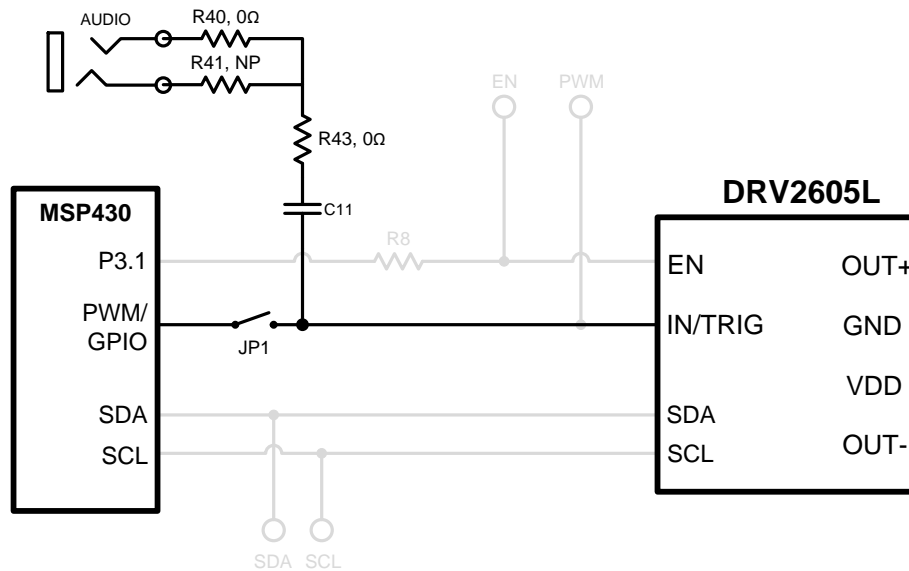

Figure 21. Audio-to-Haptics Input
1. Apply an analog line-out audio signal (not PWM) to the AUDIO jack on the left side of the board. The tip of the inserted male audio plug is applied to the IN/TRIG pin of the DRV2605L. See Figure 21.